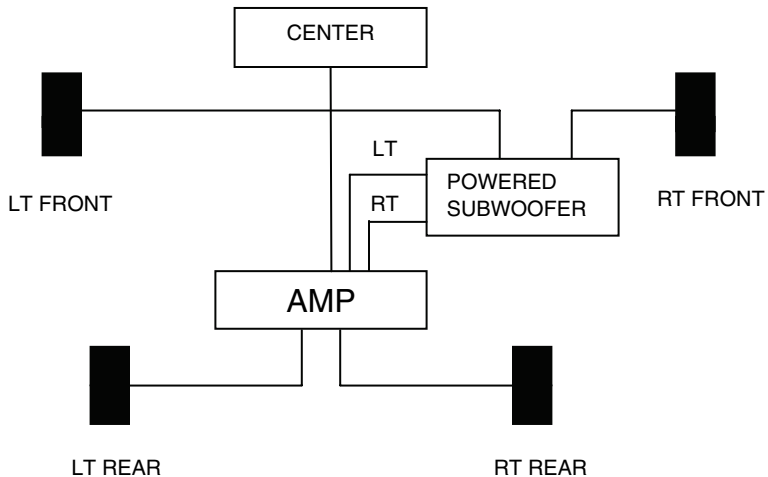

Figure 4
- The other option requires the front left and right speaker cables be routed from the amplifier through the subwoofer to the speakers. The wires from the amplifier should be connected to the “HIGH LEVEL INPUT” and the cables going to the speaker should be connected to the “HIGH LEVEL OUTPUT” on the subwoofer (see figure 4).